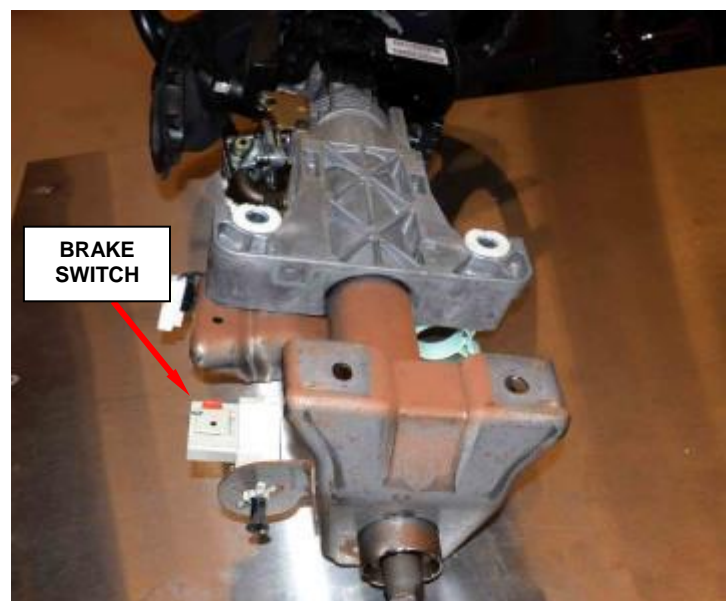

Figure 103 - Brake Switch Connector (Column out of Vehicle for Photographic Purposes)
11. Disconnect the brake switch electrical connector (Figure 103).